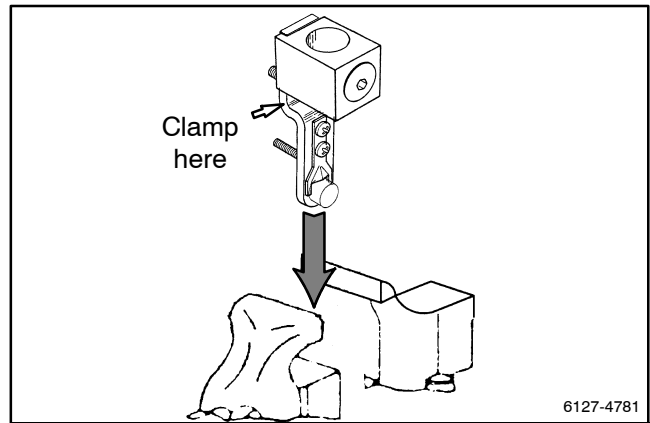

Figure 6-4 Stationary Contact Secured in a Vise to Remove and Install the Terminal Lug and Arc Runner
2. Remove the terminal lugs: Secure each contact plate in a vise. See Figure 6-4. Remove terminal screws (from the back) by using a 9/16 in. socket wrench. Save terminal lugs and screws for reuse.
- b. Carefully secure each new stationary contact plate in a vise. See Figure 6-4.